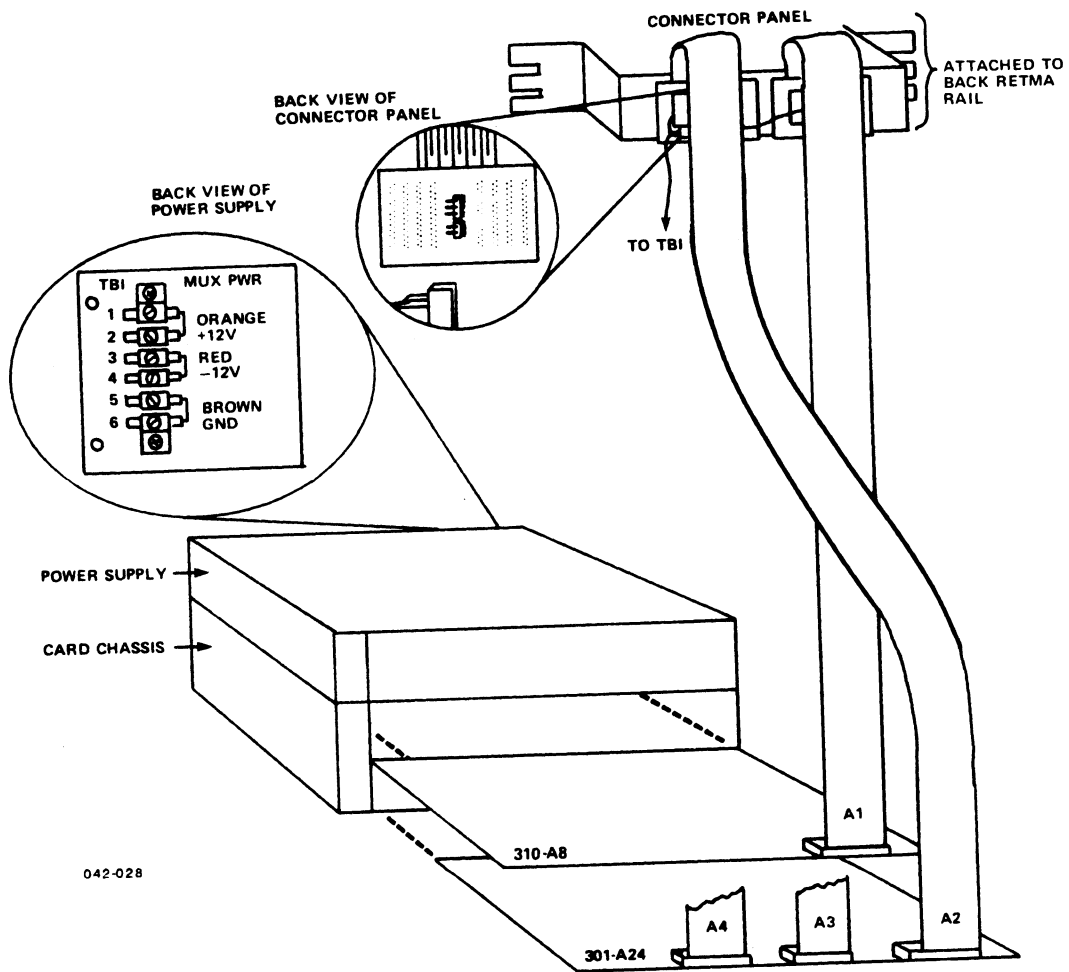

Figure 6-11. Installing 310 Multiplexer and 301 Boards
- Connect the power supply to the multiplexer boards as follows (see Figure 6-11):